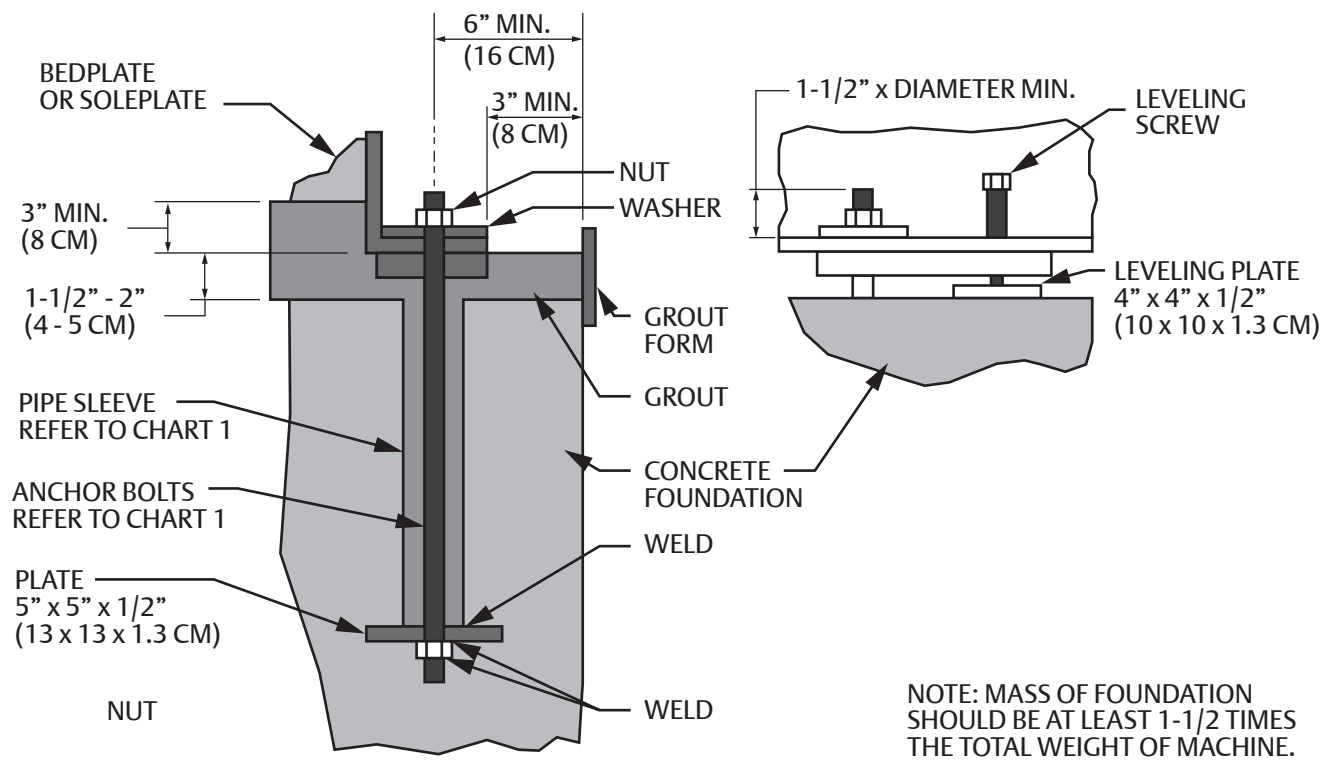

Figure 3-3. Conventional Anchor Bolts
- Anchor bolts are to be placed within the foundation forms before concrete is poured. Bolts and pipe sleeves should be as shown in Figure 3-3.
- Bolt position should be adjusted vertically so that the top ends will extend at least 1-1/2" x diameter above the top of the soleplate or of the baseplate flange, or as shown on the certified General Arrangement (GA) drawing. The pipe sleeves are to be filled during grouting operation. Refer to the chart below for anchor bolt and sleeve dimensions, or GA drawing if anchor bolt assemblies are supplied.
- A steel plate approximately 1/2" thick and of ample area should be used under the leveling screws (if not provided), see Figure 3-3.